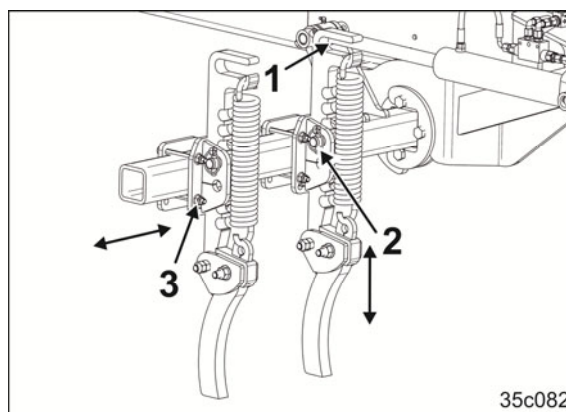

Fig. 196
1. Tighten and lock the bolt (Fig. 196/3) after adjusting the wheel mark eradicator.
1. Hold the wheel mark eradicator by the handle (Fig. 196/1).
2. Remove the bolt (Fig. 196/2).